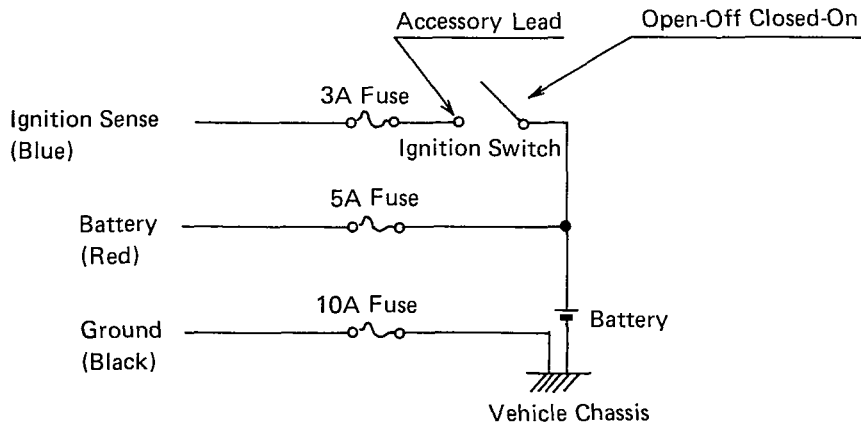

Fig. 1.4
(1) Fig. 1.4 shows the power supply cable and power control cable system